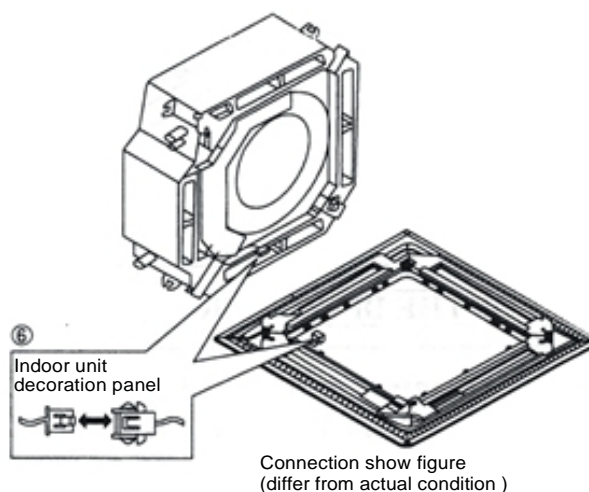

Fig 2 1 : Wire connection between the main body and the panel
5) Install the return grille and capping : Please follow Fig 2 2 to install them !
① Install the return grille